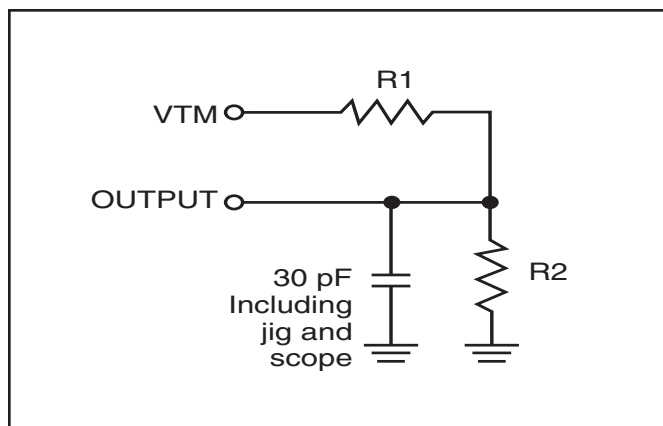

Figure 1
1. Test conditions assume signal transition times of 5 ns or less, timing reference levels of 0.9V/1.5V, input pulse levels of 0.4 to VDD-0.2V/0.4V to VDD-0.3V and output loading specified in Figure 1.